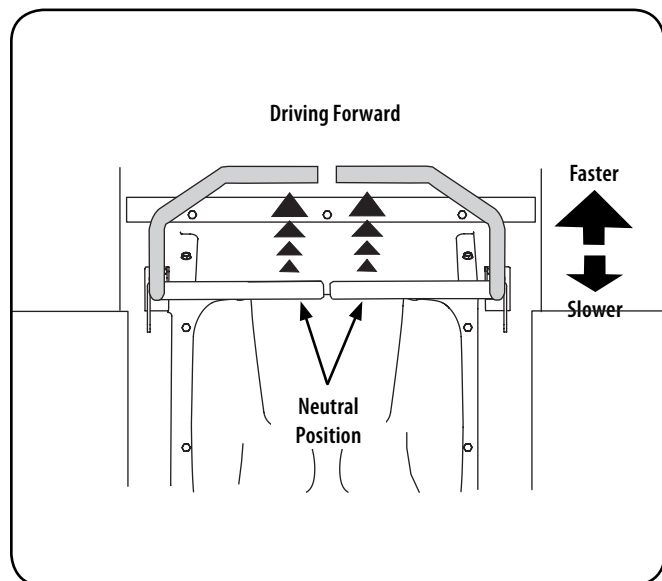

Figure 11
1. Slowly and evenly move both drive control levers forward. The tractor will start to move forward. See Figure 11.